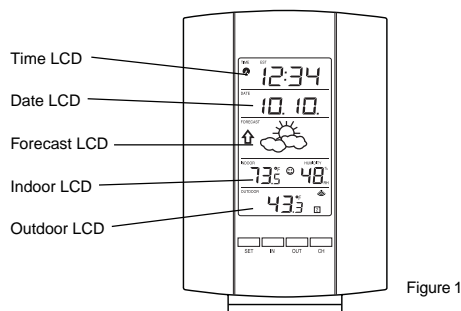

Figure 1
1. The indoor weather station (Figure 1).